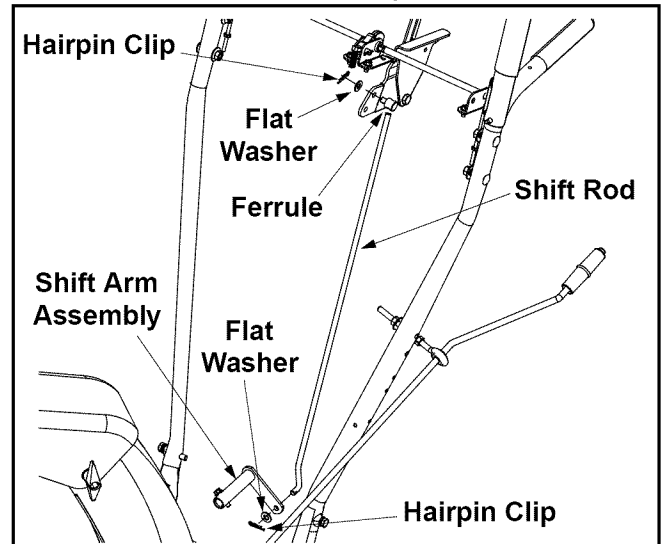

Figure 20
- Place shift lever in sixth (6) position or the fastest forward speed.
- Rotate the ferrule up or down on the shift rod as necessary until the ferrule lines up with the upper hole in the shift lever. See Figure 20.